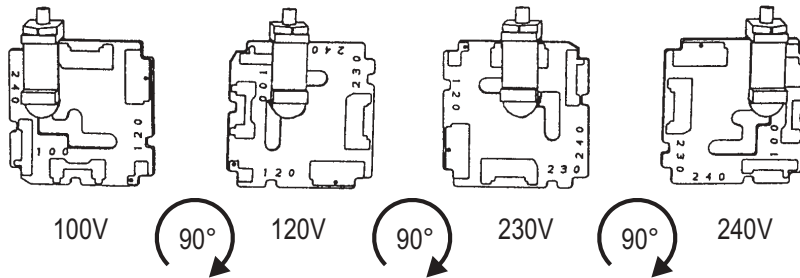

Figure 4. Voltage selector card positions.
- Orient the selector card so that the desired input voltage is readable at the bottom, shown in Figure 4. Then move the indicator pin to point UP, with the pin assembly seated in the notch on the board edge.